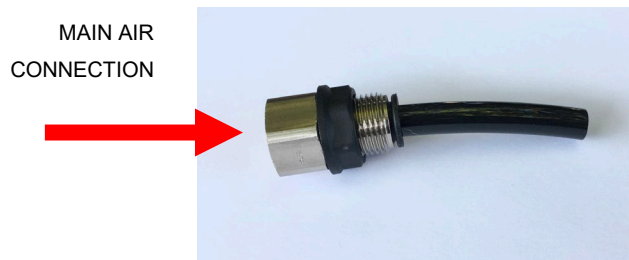

Fig 25
1. A connector to provide air to the table is included (Fig 25). The tube end is pressed into the push in fitting on the top bracket (Fig 26 & Fig 27)